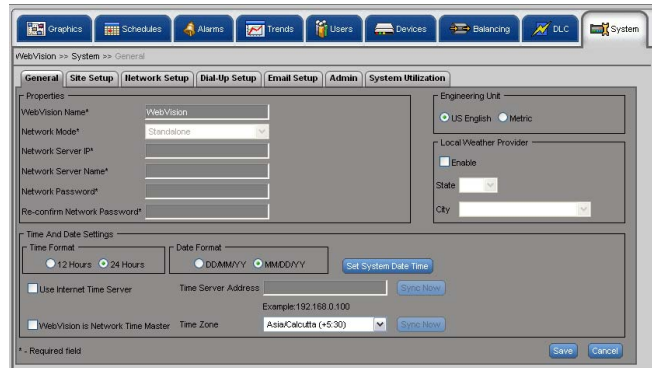

Fig. 31. System Tab - General Tab.
1. Click the **Systems** tab. The **General** tab of the **System** page appears (Fig. 31).